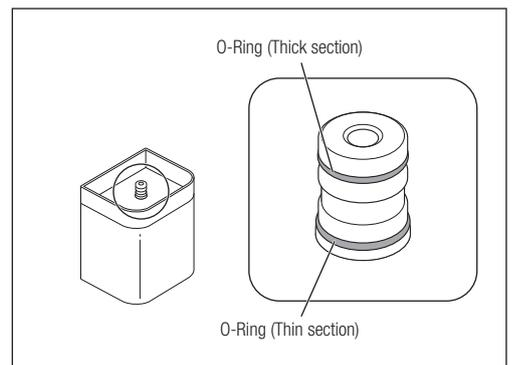

Fig. 47
• The O-rings are of different thicknesses. Be sure to place them in the correct groove (Fig. 47).